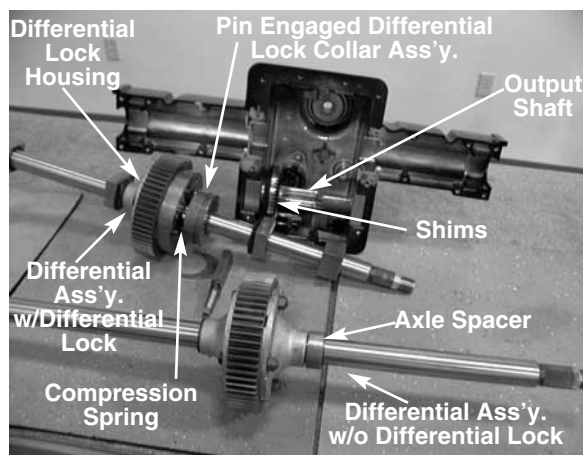

FIGURE 13.
32. Write down the shim orientations for both sides of the output shaft. See figure 13.